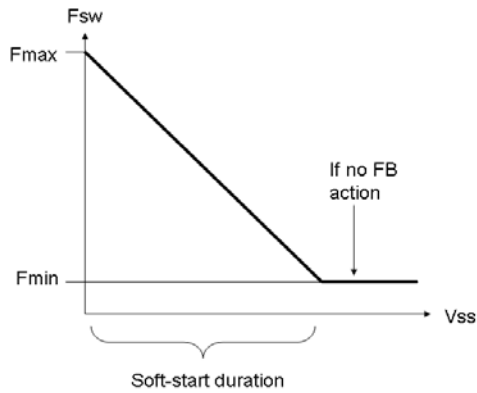

Figure 42. Soft-Start Behavior
The Brown-Out circuitry (BO) offers a way to protect the resonant converter from low DC input voltages. Below a given level, the controller blocks the output pulses, above it, it authorizes them. The internal circuitry, depicted by Figure 42, offers a possibility to observe the high-voltage